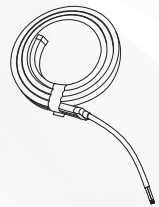

Figure 7
5. Put the plug encased into the line, and repeat Figure 4 gluing steps, and then insert the neon flex into the plug, the installation is complete, as shown in Figure 7.